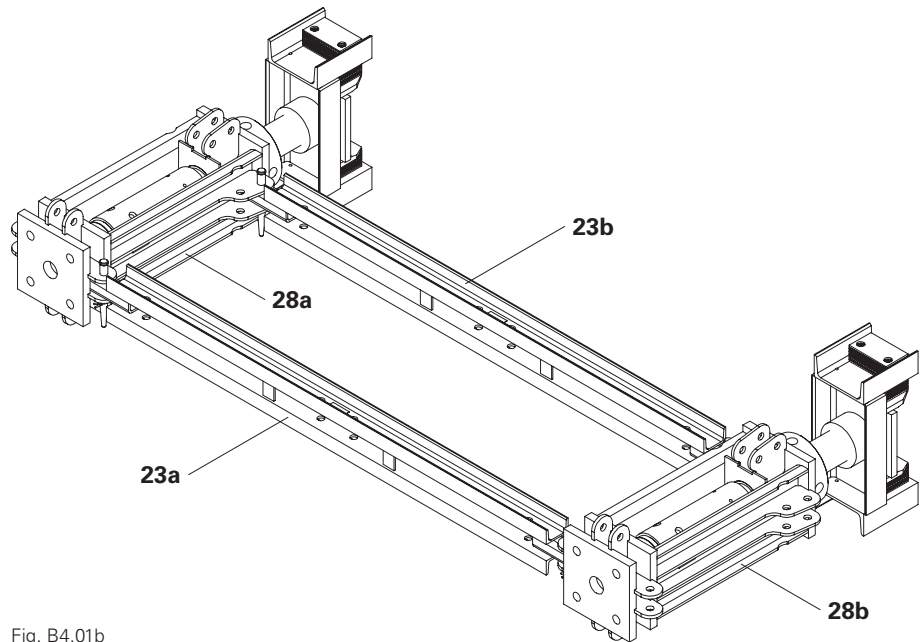

Fig. B4.01b
5. Connect the upper horizontal ledger VST 200 (**23b**) to the second head spindle VST 100 (**28b**) using 1x fitting pin  $\varnothing$  21 mm (**9**) and secure with cotter pin 4/1, galv.(Fig. B4.01b)